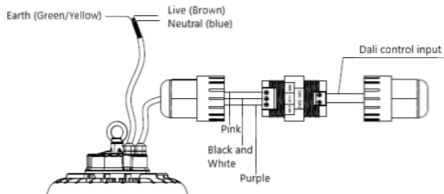

Fig. 5
- Connect the luminaire to the DALI module ensuring the correct polarity is observed: GND (pink), +12V (black and white), 0-10V (purple) (see Fig. 5)